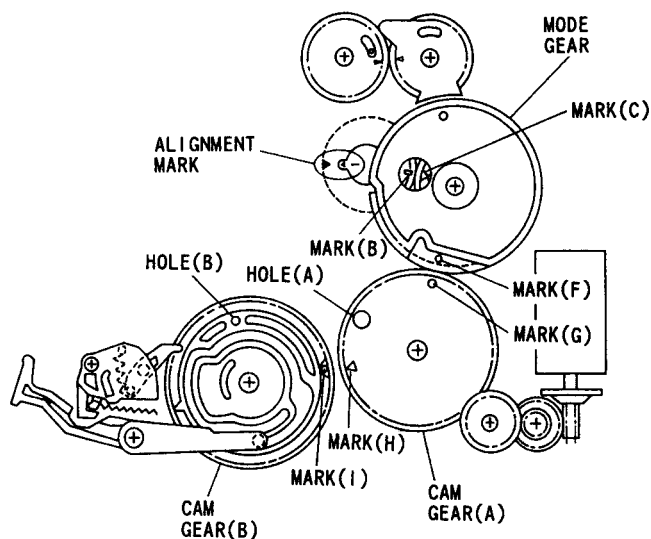

Fig. 6-23
- 1) Align mark (G) on cam gear-A and mark (F) on the mode gear. (See Fig. 6-23)
- 2) Align the arrow on the sensor P.C.B and arrow (No.1) on the mechanism state switch. (See Fig. 6-23)
- 3) With the above conditions, align mark (B) on the mechanism state switch and mark (C) on the mode gear. (See Fig. 6-23)
- 1) Align hole (A) in the cam gear-(A) and the hole in the chassis. Also align mark (G) on the cam gear-(A) and mark (F) on the mode gear. (See Fig. 6-23)
- 3) Align mark (I) in the cam gear-(B) and mark (H) on the cam gear-(A). (See Fig. 6-23)